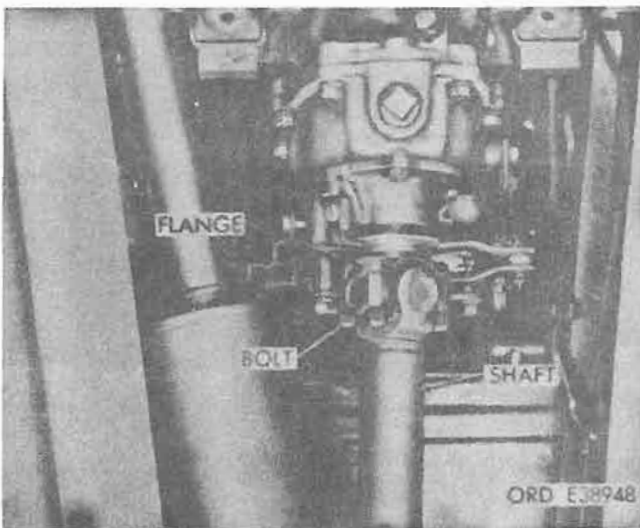

Figure 4-19. Rear propeller shaft.
(11) Remove four bolts securing rear propeller shaft to transfer output shaft flange (fig. 4-19).